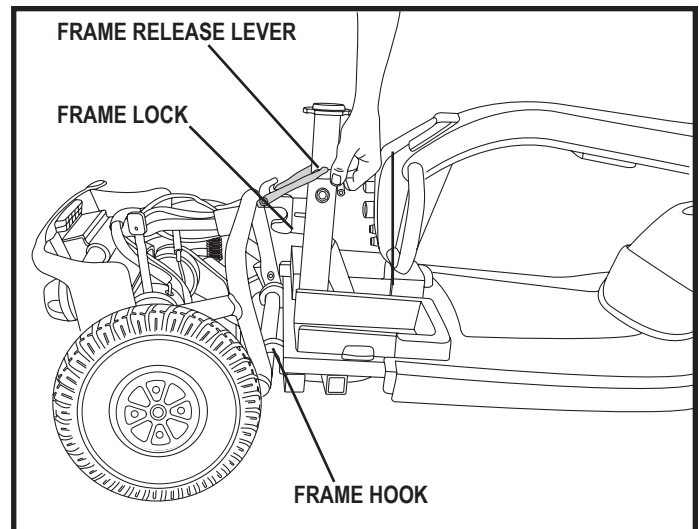

Figure 25. Frame Release
1. Lift up on the frame release lever. **See figure 25.**
2. Lift the front section up until the frame hooks of the front section separate from the rear section. **See figure 25.**
3. Once the frame hooks are over the lower frame tube, lower the front section completely. This will engage the frame lock. **See figure 25.**